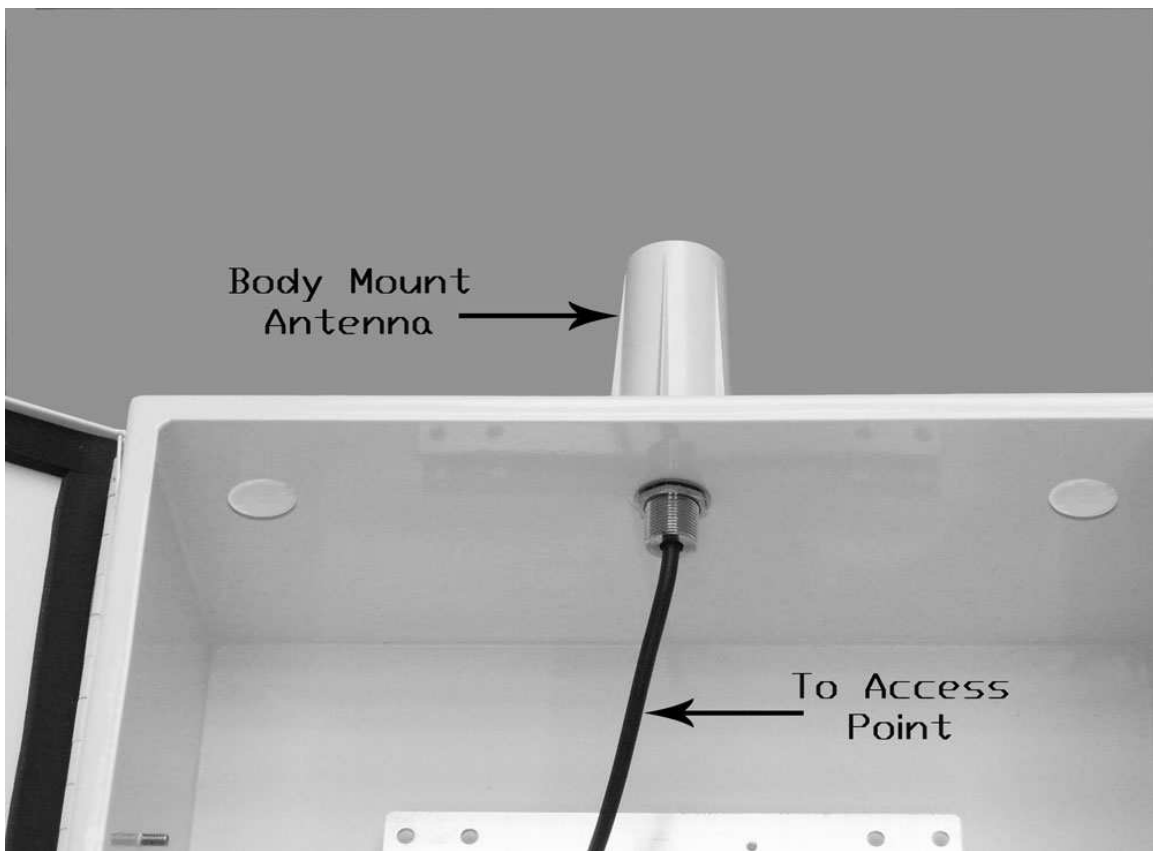

Figure 1
Oberon's 34-BMANT24 and BMANT5 (Figure 1) outdoor body mount antennas can be mounted directly to the Model 1024 enclosure. There are (3) 5/8" knockouts on the top and bottom of the enclosure for up to six body mount antennas. These antennas have an O-ring in the base, so when the antenna is properly tightened, they create a water tight seal on the enclosure.